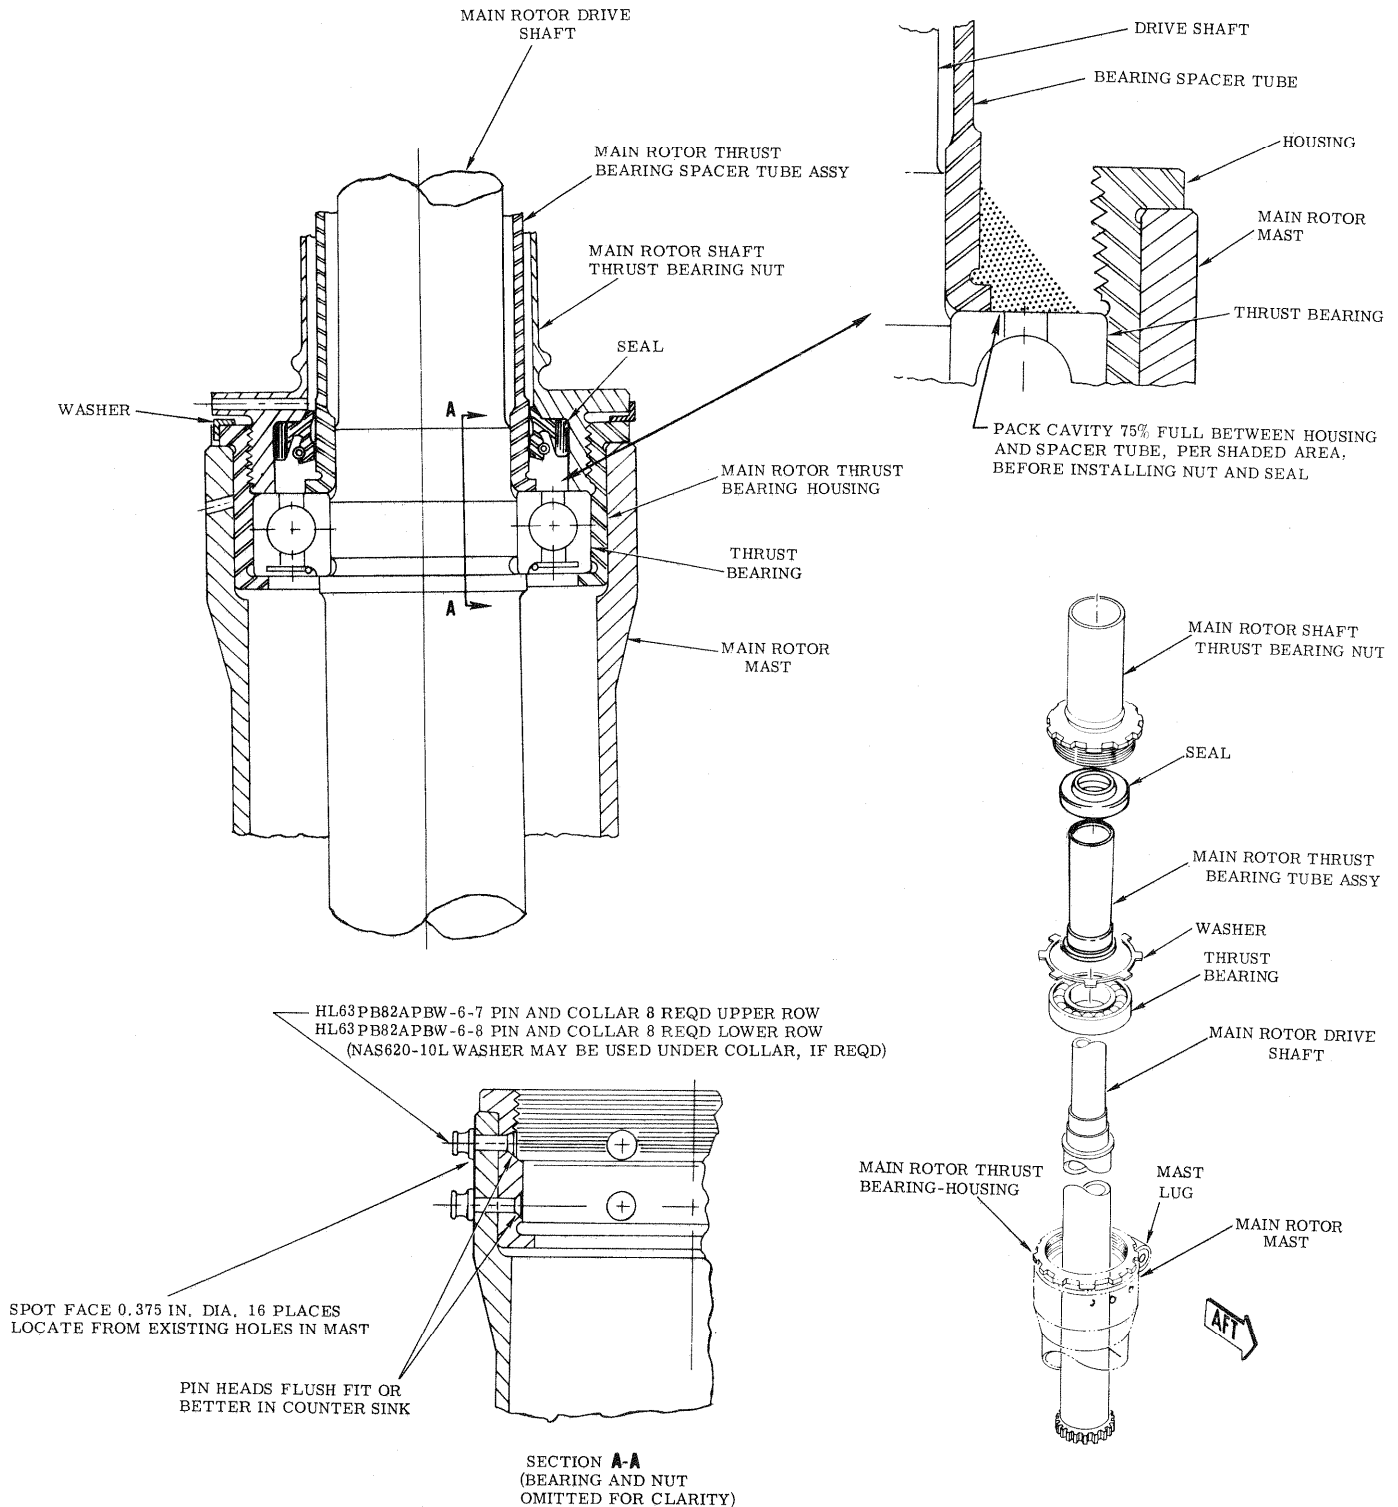

FIGURE 1. BEARING INSTALLATION-MAIN ROTOR THRUST
- b. Remove thrust bearing lockwasher, thrust bearing nut and seal, and thrust bearing spacer tube. (See Figure 1)
4. Check for proper alignment of bearing by attaching dial indicator to main rotor shaft, with indicator plunger contacting upper surface of thrust bearing outer race at dimension shown in Figure 1.